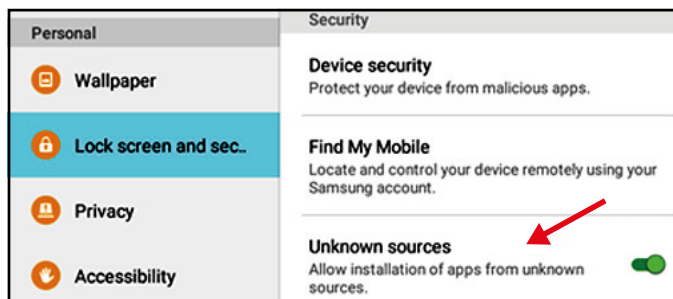

Figure 56: Security Settings
- In the tablet settings, enable the security option to allow the installation of software from “Unknown sources” for this installation only (see Figure 56 below).